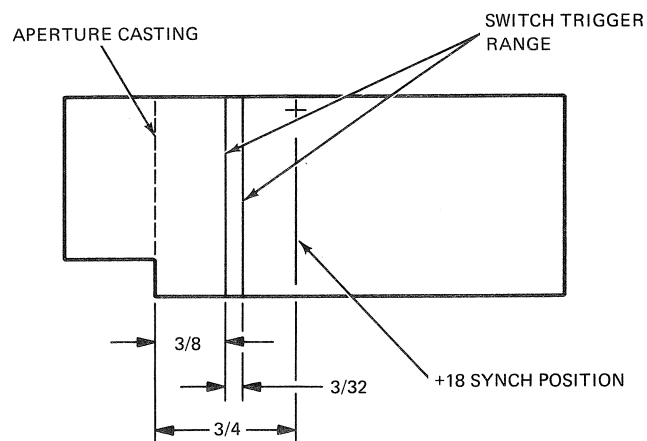

Figure 5-9. Sensor Gauge (full scale)
- B. Insert sensor special gauge (See figure 5-9) between aperture plate (figure 4, sheet 1, item 50) and casting.